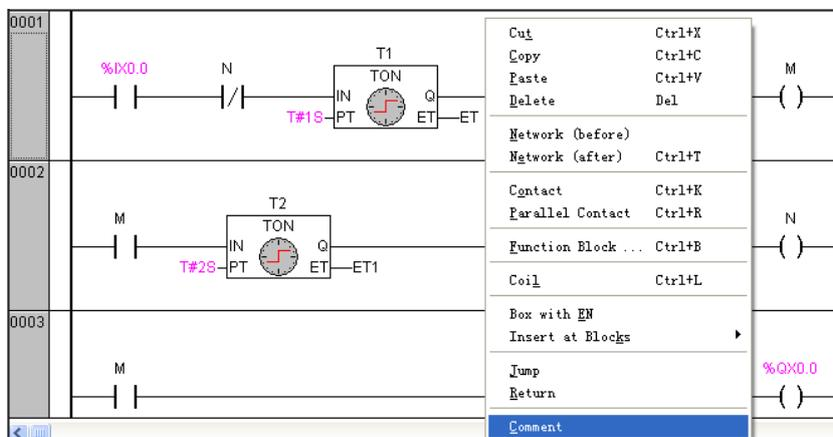

Figure 3-6-14 Programming Step (14)
- Comment may be added for a better understanding of the POU. For example, right click on network 0001, and then select “Comment”, as shown in figure 3-6-14.